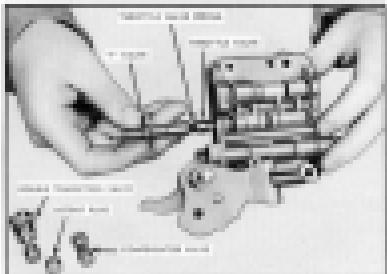

Fig. 495. Removing 'T' Valve, Spring, and Throttle Valve
15. Remove T-valve, throttle valve spring and throttle valve. (Fig. 495)